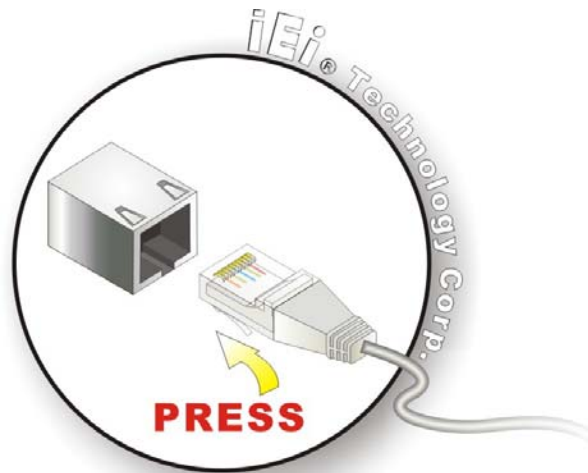

Figure 4-22: LAN Connection
Step 2: **Align the connectors.** Align the RJ-45 connector on the LAN cable with one of the RJ-45 connectors on the bottom panel of the ACT-08A-ATOM. See **Figure 4-22**.